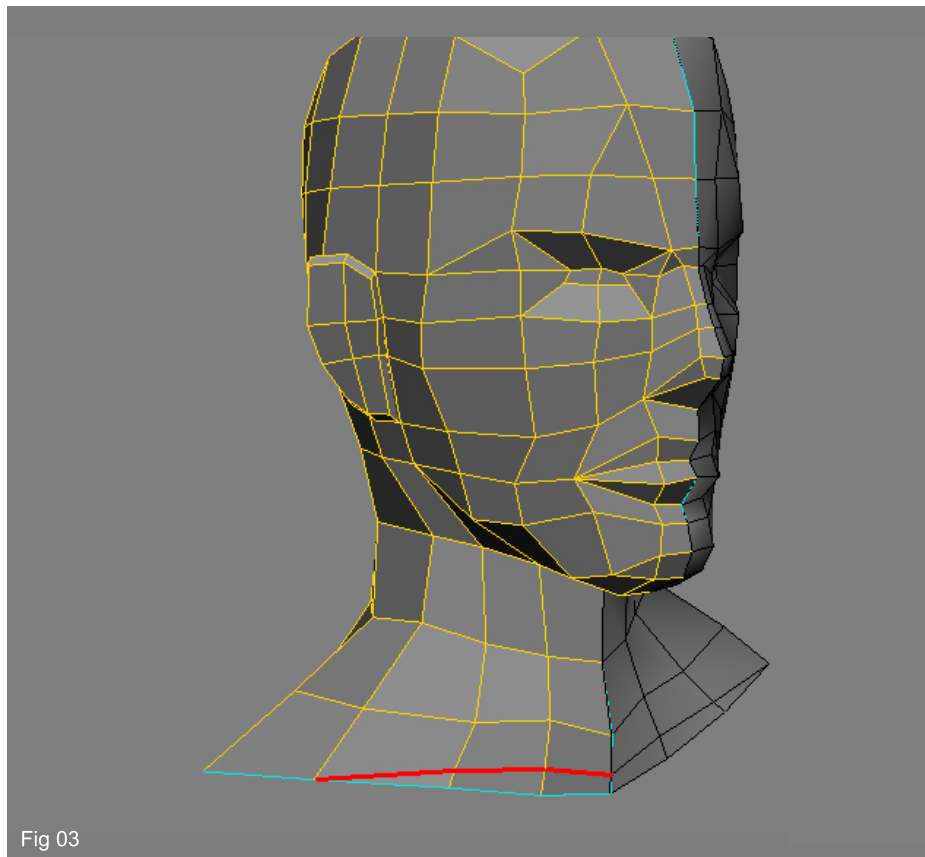

Fig 03
3. Using the same tool as in the previous tutorial (Add Edge tool, "E" is the shortcut key), make three cuts in the front polygons to create the clavicle, as shown in Fig03.